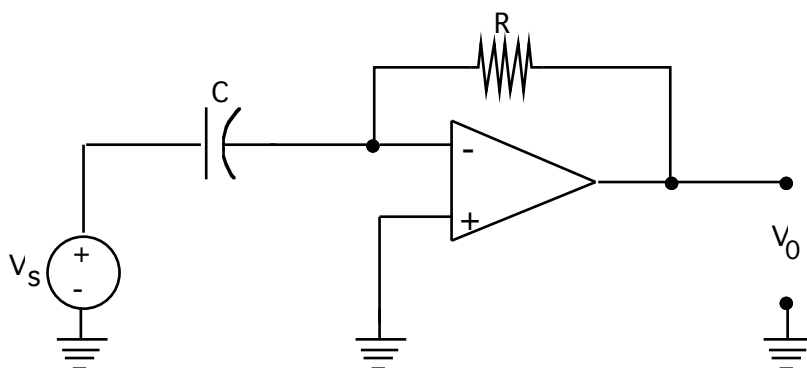
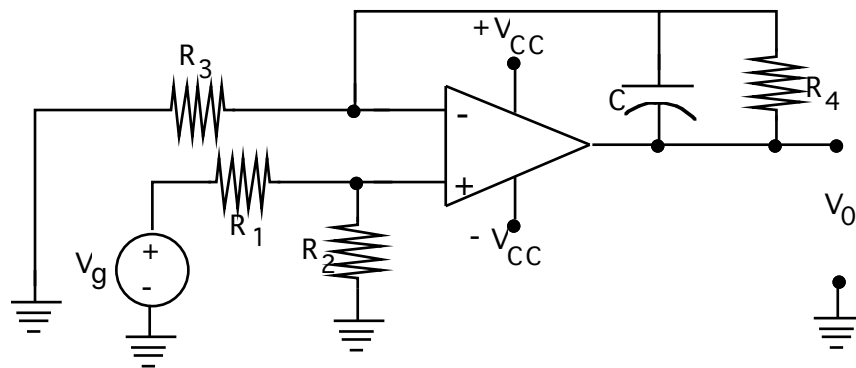
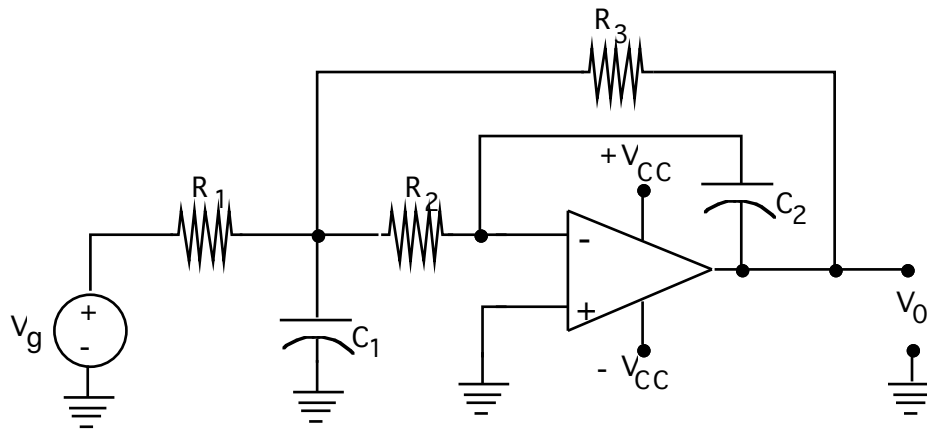

Fig. 4 Differentiating Amplifier
Fig. 5 Circuit # 1
Fig. 6 Circuit # 2
The analysis of differentiating amplifier shown in Fig. 4 gives:
- 4.2.1 Build the circuit shown in Fig. 4. Use $R = 620 \Omega$ and $C = 0.1 \mu\text{F}$.
In the circuit of Fig. 5, $R_1 = 20\text{K}\Omega$, $R_2 = 100\text{K}\Omega$, $R_3 = 10\text{K}\Omega$, $R_4 = 52\text{K}\Omega$, and $C = 1\text{nF}$. With $V_{CC} = +15\text{ V}$, and an input $V_g = 1 \cos(20,000 t)$ (V), build the circuit and display the waveforms of output voltage V_o and input voltage V_g on the scope. Save the waveforms on your diskette.
In the circuit of Fig. 6, $R_1 = 10\text{K}\Omega$, $R_2 = 1\text{K}\Omega$, $R_3 = 10\text{K}\Omega$, $C_1 = 1\text{nF}$, and $C_2 = 0.01\mu\text{F}$. With $V_{CC} = +15\text{ V}$ and the sinusoidal input $V_g = 5 \cos(10^5 t)\text{ V}$, build the circuit, display the waveforms of output voltage V_o and input voltage V_g on the scope, and copy them for your report. Measure the magnitude and the phase of the output.
5.4 Assuming that the Op-Amp in Fig. 5 is ideal,
5.5 The Op-Amp in the circuit of Fig. 6 is ideal. Find the steady state expression for $V_o(t)$ when $V_g = 5 \cos(10^5 t)$ V.
5.6 The Op-Amp in the circuit of Fig. 6 is ideal. If $V_g = 1 \cos(1000 t)$ V,
5.9 Simulate, in PSpice, the circuit of Fig. 4 to find the magnitude and the phase of the output voltage $V_o(t)$, for input voltage $V_s(t)$ of all 3 waveform types. Compare your results with the experimental ones. Repeat the same for the circuits in Fig. 5 and Fig. 6. Tabulate your results.